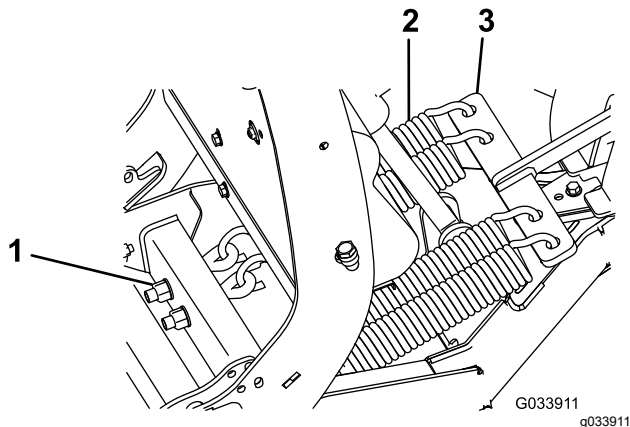

Figure 43
1. Loosen and carefully remove the 4 lock nuts and 4 washers from the trip-spring eye bolts (Figure 43).